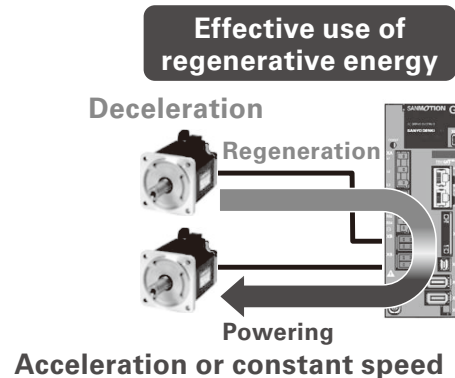

Fig. 4 Reuse of regenerative energy
- (1) By adopting the EtherCAT multi-axis specifications and sharing power supplies and general-purpose I/O signals between the two axes, cable wiring has been reduced by 35%.
- (2) Compared to using two units of the *SANMOTION G* single-axis servo amplifier, it has 18% lower power loss at rated output. As shown in Figure 4, the regenerative energy generated by one axis can be effectively reused to power the other axis.
- (3) By integrating the control circuits (CPU, FPGA, and